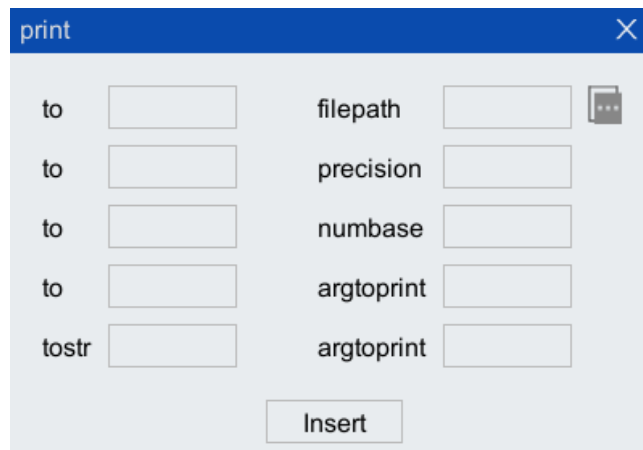

Figure 5-50 "Print" Instruction configuration interface
Step1.Click "Insert Cmd> auxiliary instruction> Print" option in the toolbar of the program editor to pop up "print" instruction interface, as shown in Figure 5-50.